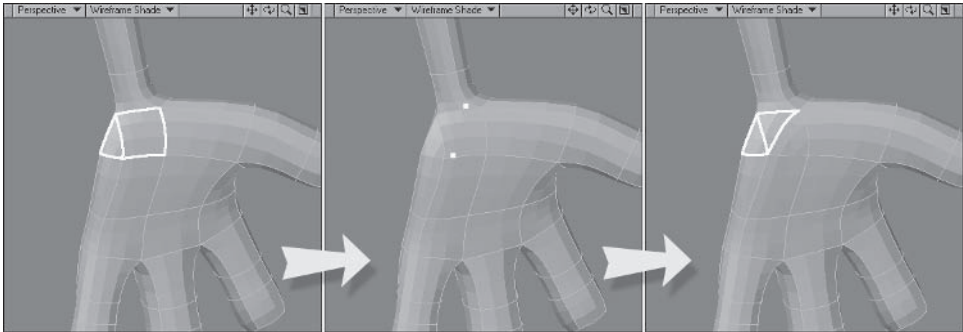

Figure 3.2-41. Switch the three- and four-point polygons to achieve better polygon flow.
20. Select the two polygons shown in Figure 3.2-41. Switch to **Point** mode and select the two points crossing the four-point polygon. **Split (Ctrl+L)** the polygon and deselect the three-point polygon closest to the front. **Merge (Shift+z)** the remaining two selected polygons.